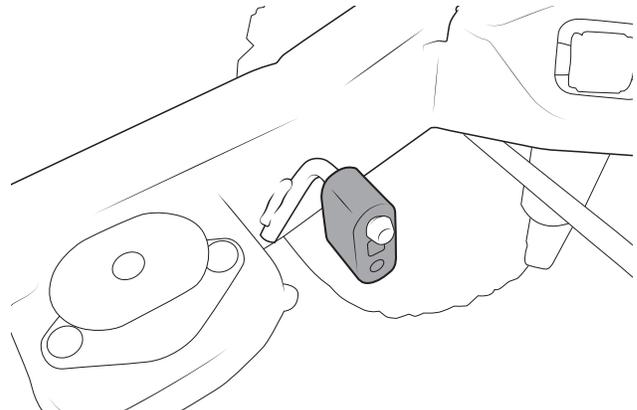

Figure 30
- b. Install the supplied isolators onto the frame (fig 30).